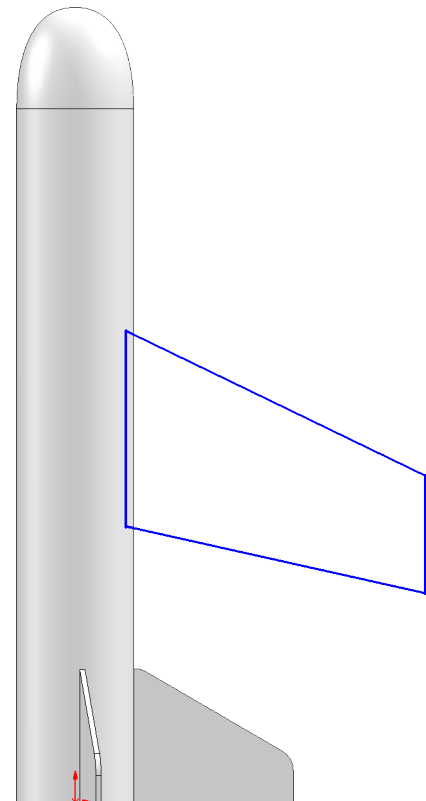

Fig. 42
Step 6. Sketch **4 chained lines**, **Fig. 42**. Start sketch with vertical line down along right edge of tube, angle line, vertical line and angled line to top endpoint.